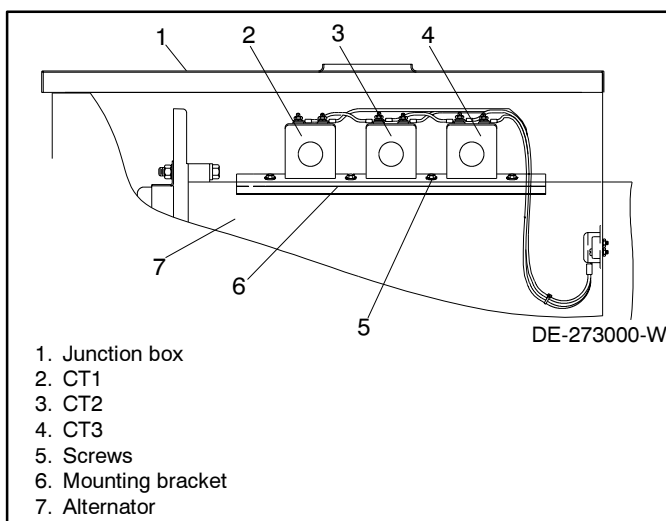

Figure 1 Current Transformer Installation, Typical
- 1.5 Secure CT1, CT2, and CT3 to generator set alternator using the bracket and mounting screws supplied with the kit. See Figure 1.